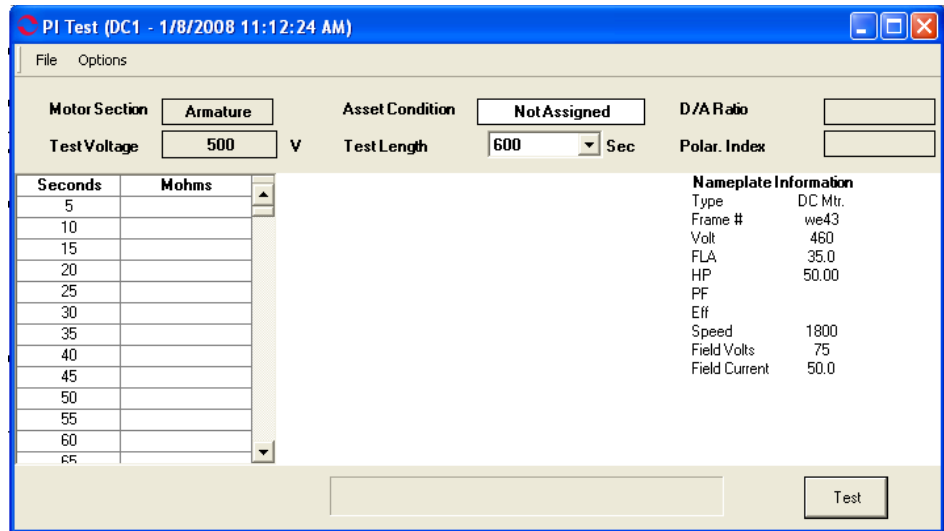

Figure 5-51: PI Test Window
12. Click **Test** to go to the PI Test Window. See Figure 5-51.